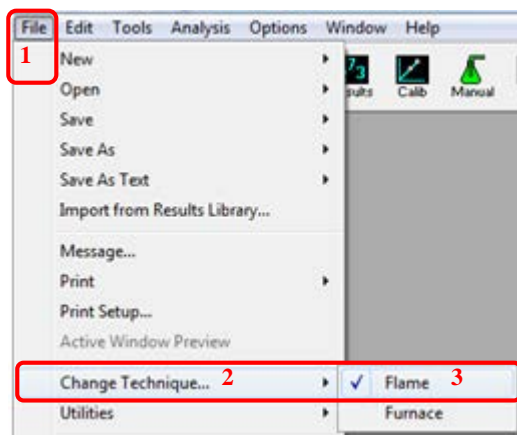

Fig. 10
3.1.12 Click on **File > change technique > flame** (fig. 10) if the current system is furnace; if not, skip this step.